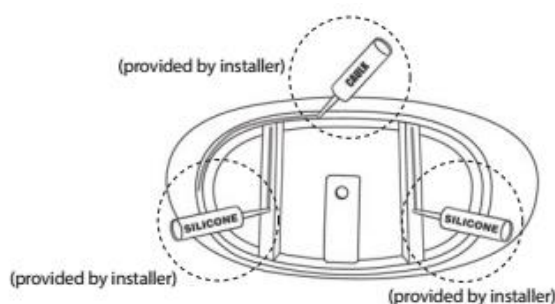

figure 12
16. Apply a generous bead of adhesive or silicone to the bottom of the tub supports (figure 12).
caulk around the edge of the base (figure 12).